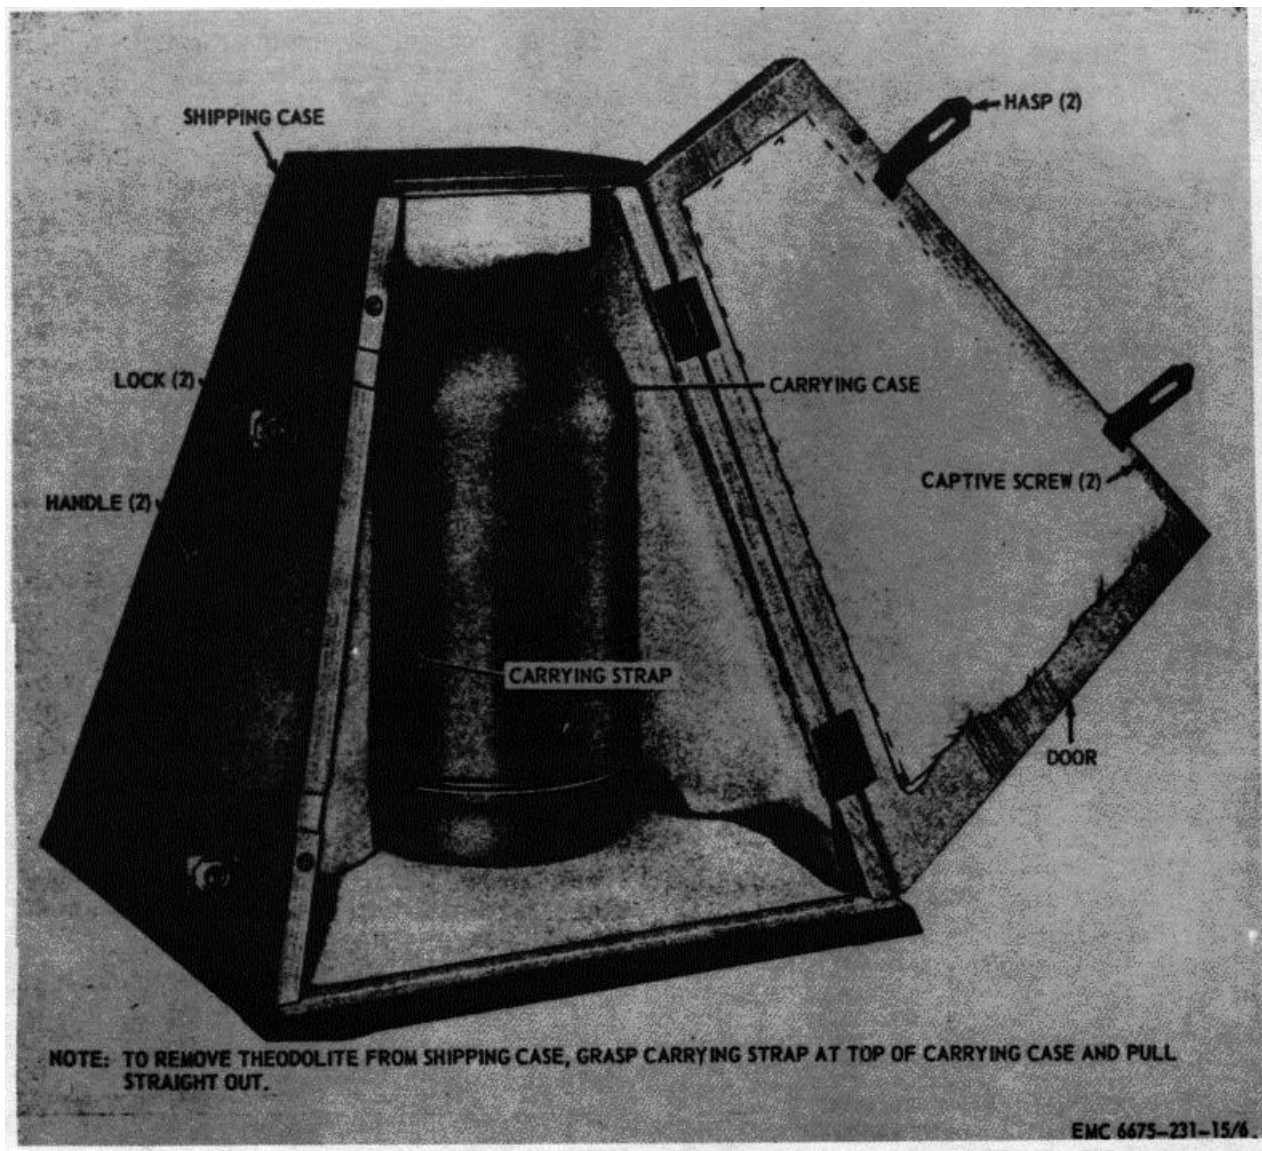
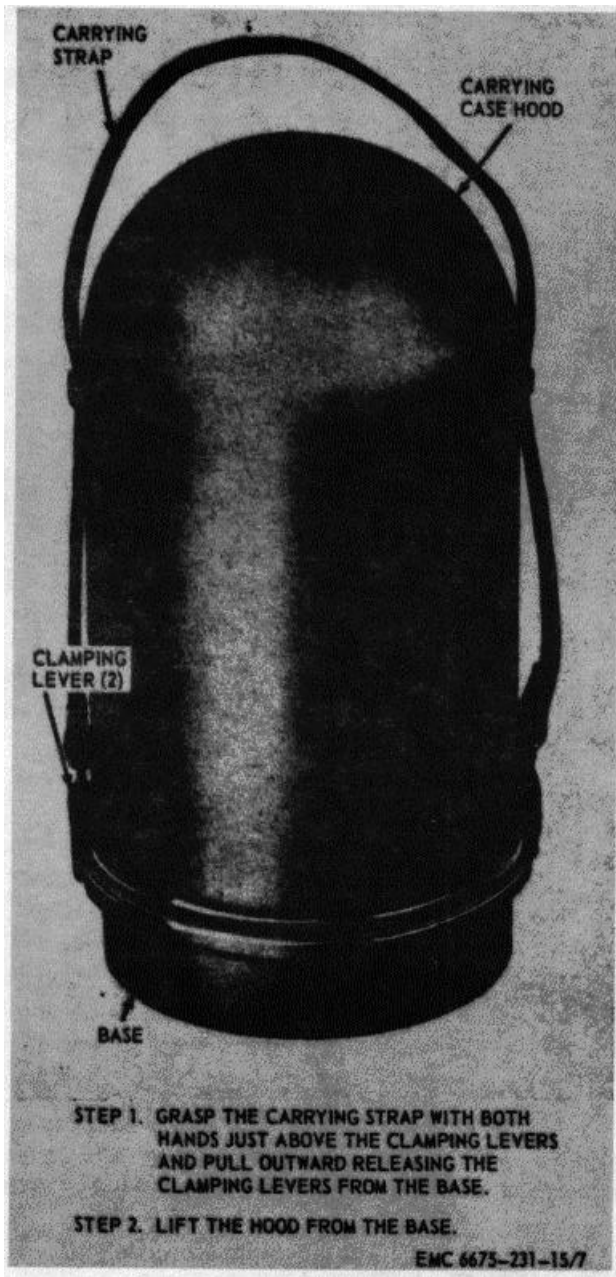

Figure 6. Theodolite carrying case, removal and installation.
Figure 7. Carrying case hood, removal and installation.
- (1) Remove the 2 locks, unfasten the 2 captive screws, and open the shipping case door (fig. 6).
- (2) Remove the theodolite carrying case from the shipping case.
- (3) Refer to figure 7 and remove the carrying case hood.
- (1) Inspect the carrying case (fig. 6) for dents, cracks, rust, defective clamps, and carrying strap.
- (1) When the theodolite must be moved for long distances or over rough terrain, the instrument should be transported in the carrying case (fig. 6).
- (2) Handle the carrying case carefully to avoid sudden jolts, continued vibration, or other shocks that might damage the delicate parts of the instrument.
- (3) Do not drop the carrying case into a vehicle or on the ground during transportation.